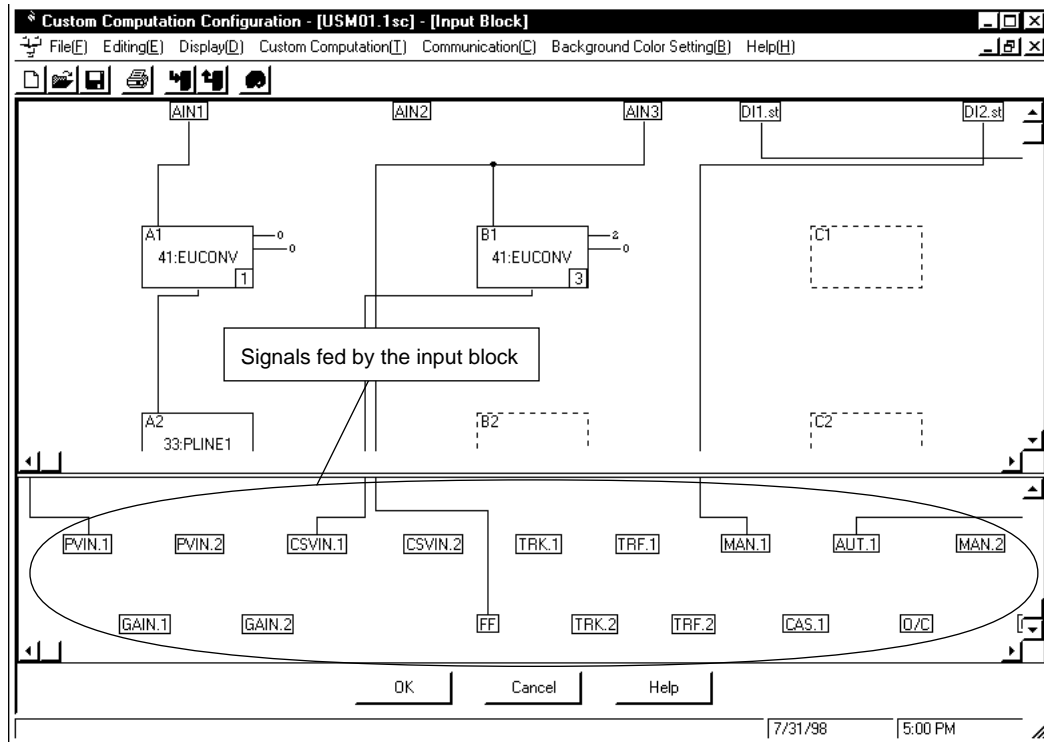

Figure 6.1.8 Output Signals Fed by the Input Block
- ① In the [Input Block] dialog box (Figure 6.1.8), click the appropriate output signal.